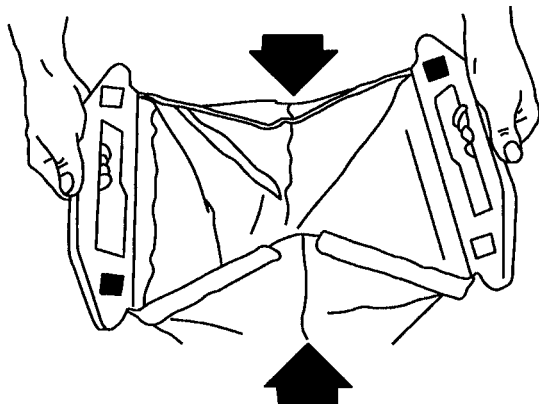

Figure 37
13. Close rear of bag by folding sides in and pressing interlocking rear handle halves together (Fig. 37).